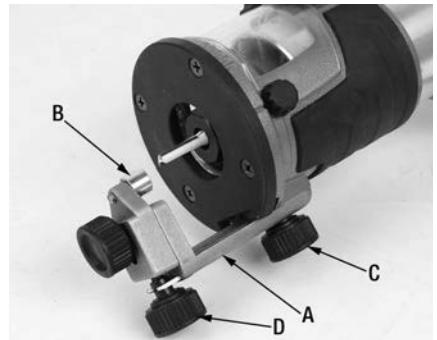

Figure 11
Trimming curved cuts can be done easily with the trimmer roller guide (A) Fig.11. The roller guide (B) rides the curve and assures a fine cut.
Loosen the fixed base lock knob (C) Fig.11. Slide the trimmer roller guide (A) under the lock knob and tighten to secure in place.